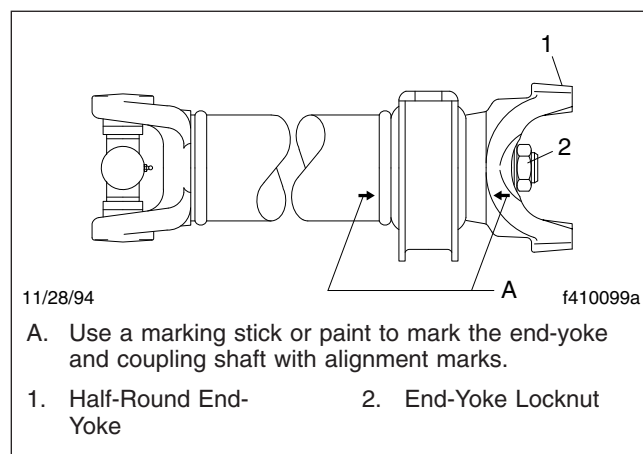

Fig. 6, Alignment Marks on a Coupling Shaft With an End-Yoke
3. Install the end-yoke. See **Fig. 6**.
- 3.2 Align the marks added to the coupling shaft and end-yoke during removal, then place the end-yoke on the shaft so the yoke bores are aligned at both ends of the shaft. See **Fig. 6**.
For a coupling shaft, check that the end-yoke and tube-yoke are aligned, so that the U-joints at each end of the coupling shaft will be in phase. See **Fig. 6**.